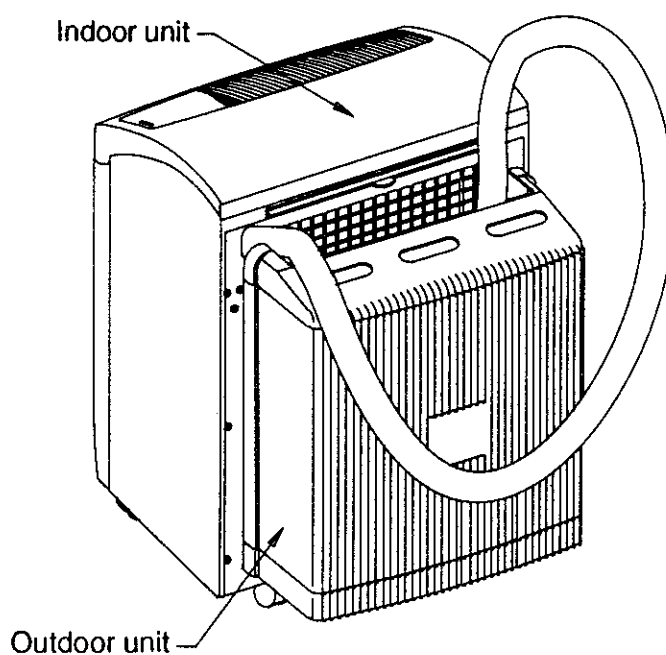

Figure 13. Units Joined for Moving and Storing
The indoor and outdoor units should be joined together (Figure 13) when moving or storing the air conditioner. To join the units, insert pins (8) of the outdoor unit into the keyholes (16) of the indoor unit (see Figure 1 and Figure 2).